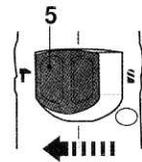

Fig. 9
- > Move the mode selector (5) to the hammer symbol  to use the product for drilling holes in masonry or concrete (Fig. 9).